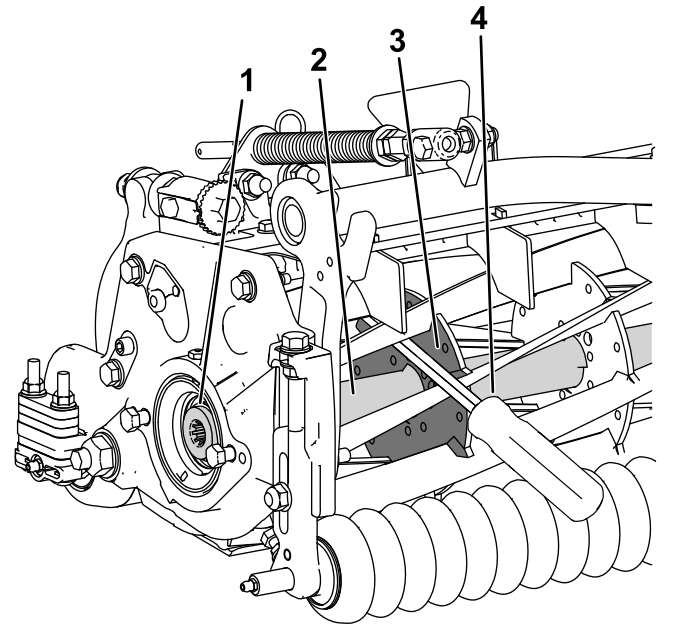

Figure 27
- Insert a long-handled pry bar (recommended 3/8" x 12" with screwdriver handle) through the front of the cutting reel, closest to the side of the cutting unit that you will be torquing (Figure 27).
- Place the pry bar against the weld side of the internal cutting reel reinforcement (Figure 27).